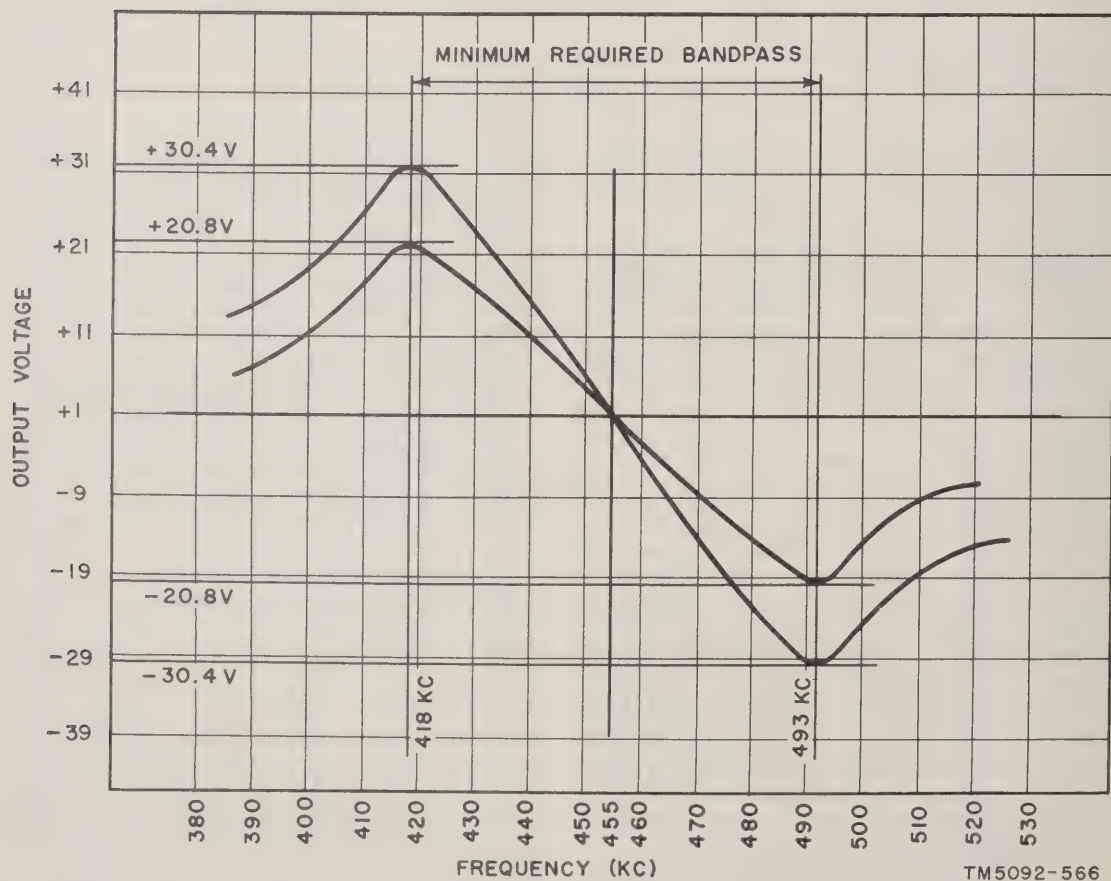

Figure 30. Radio Receiver R-394/U, discriminator response curve.
- (3) When the i-f signal applied to the discriminator is below the center frequency, the voltage at CR81 exceeds that at CR82 and the d-c output across R106 exceeds that across R107. This causes the d-c output of the discriminator to rise.
- (4) Since the frequency of the i-f signal varies at an audio rate, the d-c output of the discriminator varies at an audio rate. I-f voltages are bypassed to ground by i-f filter FL81. The instantaneous d-c output of the discriminator (discriminator frequency response curves) is shown on figure 30. The two curves indicate the tolerance limits for a satisfactory discriminator.